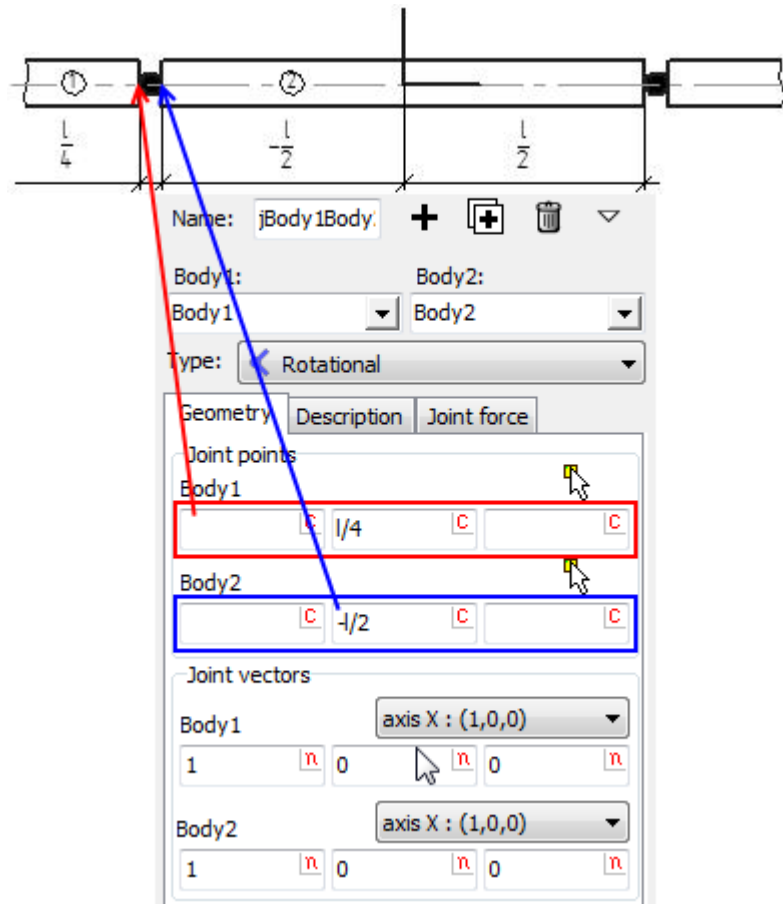

Figure 3.5. Rotational joint between **Body1** and **Body2**
5. On the **Geometry** tab for the first body (**Body1**) in the group **Joint points** input coordinates of its right end and for the second body (**Body2**) input coordinates of the left end, see Figure 3.5.